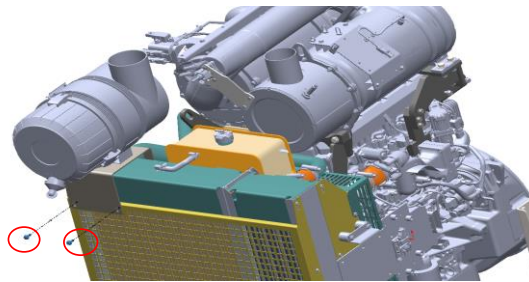

fig. 2
2. Assemble Air Cleaner Assembly (1) and Air Cleaner Bracket (4) on the radiator using four M8x1.25-30 bolts (6) as shown in figure 2 & 3.